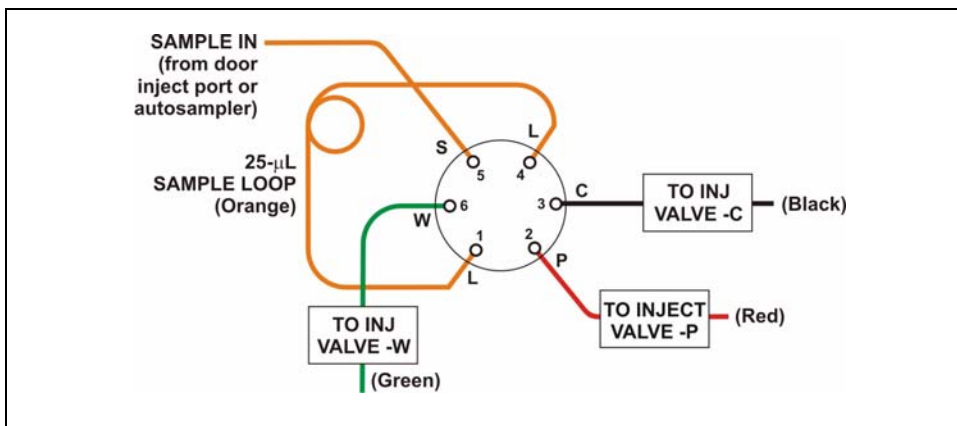

Figure 2-21. Injection Valve Plumbing
Figure 2-21 shows the injection valve connections. The injection valve is plumbed at the factory with all tubing and fittings for connection to the pump, injection port, column, and waste. A 25- $\mu$ L PEEK sample loop (P/N 042857) is installed between ports L (1) and L (4). Dionex offers